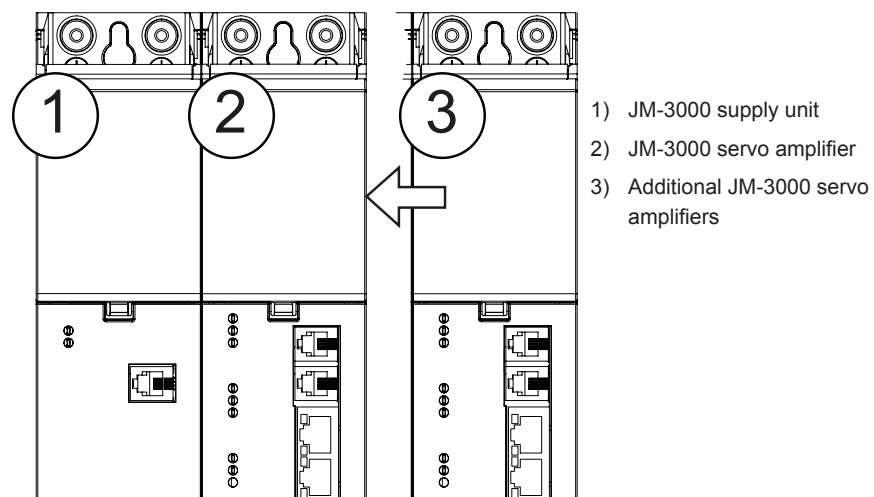

Fig. 2.1 Order of butt mounting
- The devices must be butt mounted in the prescribed order as shown in Fig. 2.1. A different order is not permitted, as this causes problems with the busbar and heat dissipation.